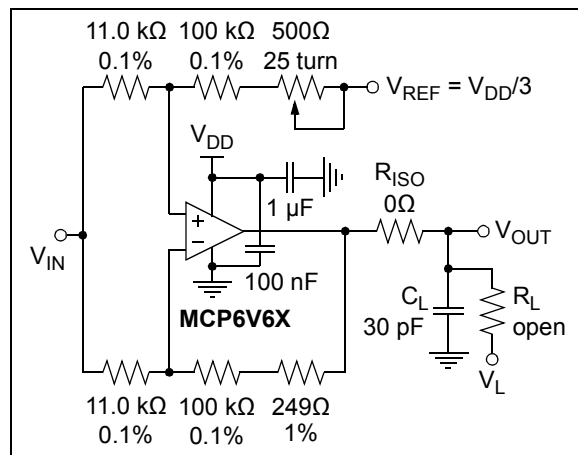

FIGURE 1-6: Test Circuit for Dynamic Input Behavior.
- Note 1:** These parameters were characterized using the circuit in Figure 1-6. In Figures 2-36 and 2-37, there is an IMD tone at DC, a residual tone at 1 kHz and other IMD tones and clock tones. IMD is Referred to Input (RTI).
The circuit in Figure 1-6 tests the input's dynamic behavior (i.e., IMD, t_{STR} , t_{STL} and t_{ODR}). The potentiometer balances the resistor network (V_{OUT} should equal V_{REF} at DC). The op amp's Common Mode Input Voltage is $V_{CM} = V_{IN}/2$. The error at the input (V_{ERR}) appears at V_{OUT} with a noise gain of 10 V/V.